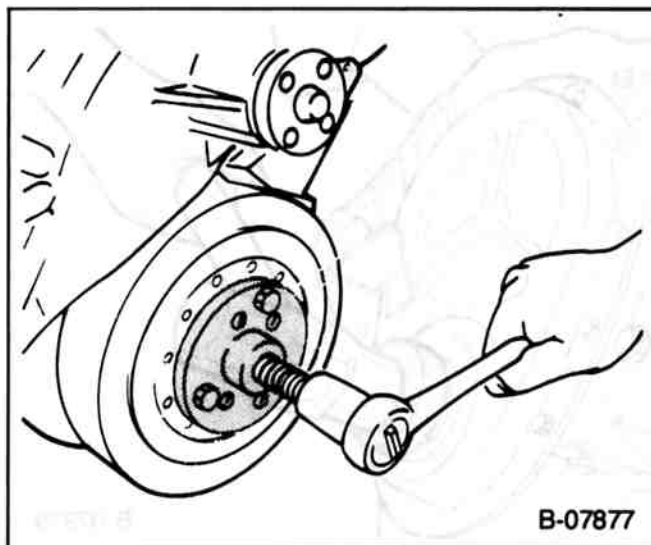

Figure 10—Removing The Torsional Damper
Remove or Disconnect (Figure 10)
5. Torsional damper. Use J-23523-E (figure 10).